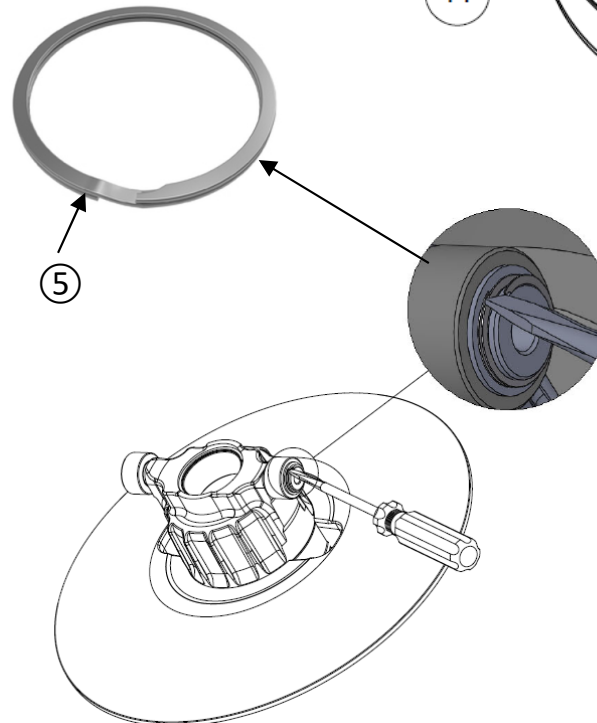

Figure 22
- With a flat head screwdriver, remove the external retaining ring ⑤ from the sliding sheave ② (figure 22).